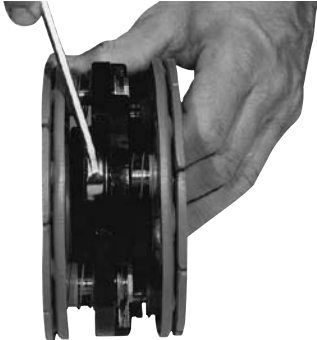

Figure 12
Step 8 Compress the armature hub and one of the armatures together until the armature hub bottoms on the armature boss. Slide the retainer on each pin down tightly against the armature hub. (Figure 12)